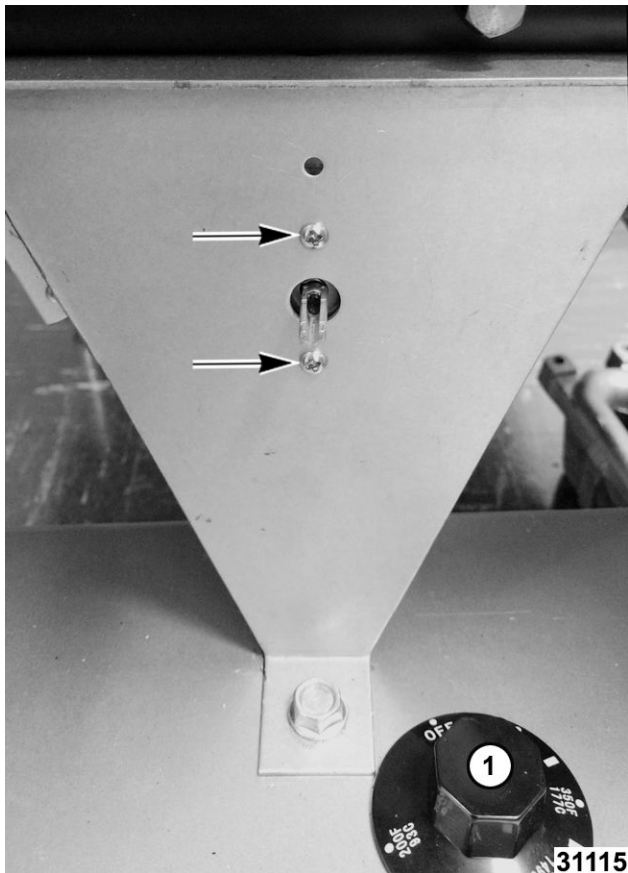

Fig. 8
4. Pull thermostat knob (1, Fig. 8) off thermostat shaft.
5. Remove thermostat mounting screws (Fig. 8) and bracket.